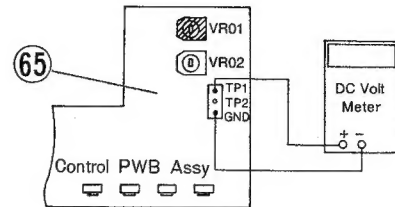

Figure 23
1. Remove the case top according to DISASSEMBLY INSTRUCTIONS (B) (page 3).
3. Connect the D.C. voltmeter between TP1 and GND terminals on Control PWB Assy (65) (Fig. 23).